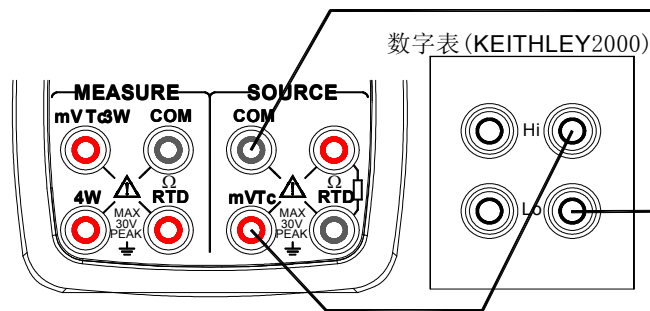

Figure 14 Adjusting voltage source
**Step 1:** Using the (**mV**) key, select DC voltage function. Connect the lead cables for measurement to the standard digital meter as shown in Figure 14.